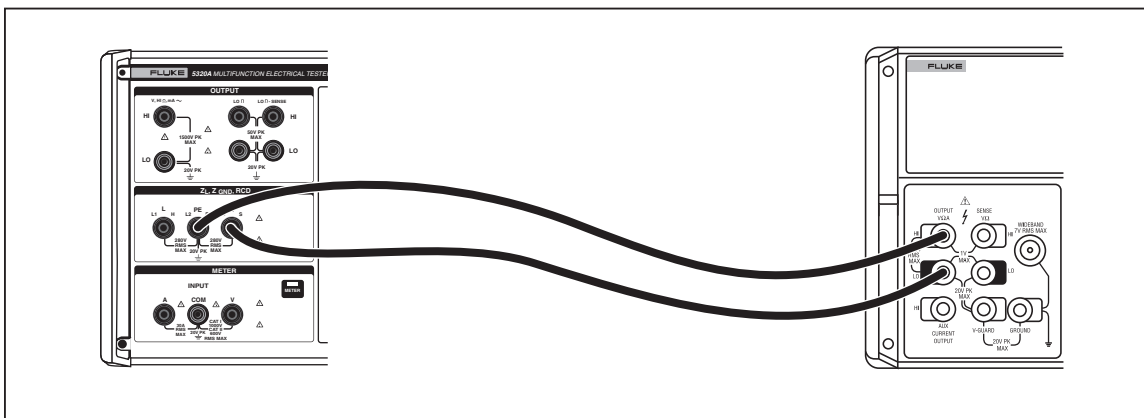

Figure 3-8. Ground Bond Resistance Meter Voltage Calibration Connections
12. Connect voltage output of the multifunction calibrator to the PE and N terminals as shown in Figure 3-8.